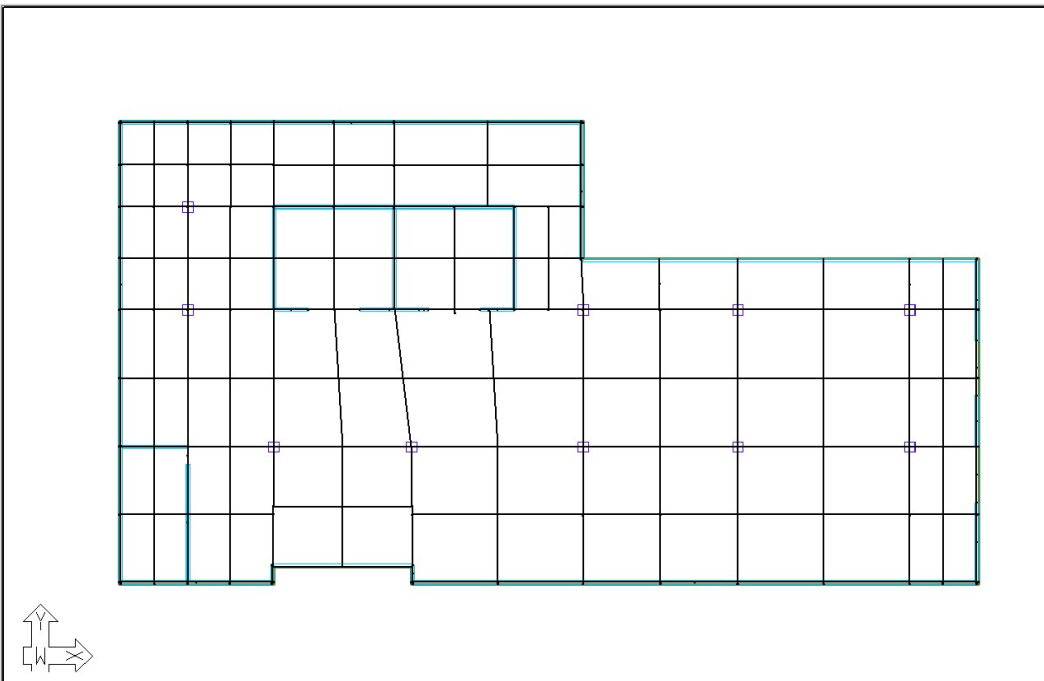

Figure 4.1-7
- Click **Close** on the *Support Line Dynamic Editor*. The user should now see the middle strips created on plan, with both the column strips and middle strips colored black as shown in **Figure 4.1-7**.